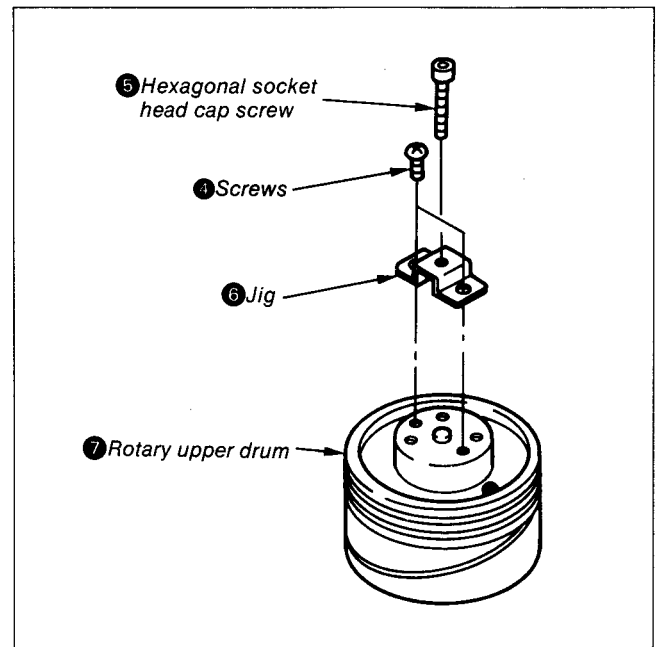

Fig. 8-38.
- 4) Install jig ⑥ (Ref No. J-10) with the attached two screws ④ into the screw hole where the damper ② had been installed and twist the attached hexagonal socket head cap screw ⑤ into jig ⑥. By doing so, the rotary drum becomes floated to the top side and this acts to remove the rotary upper drum ⑦. (See Fig. 8-38.)